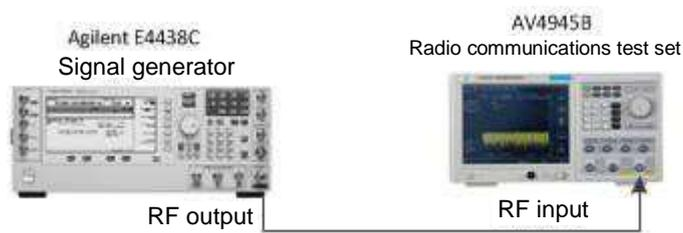

Fig. 4-5 RF receiver wiring diagram
The section introduces RF receipt operations of the 4945B/C radio communications test set, and takes the Agilent E4438C signal generator for RF signal generation, with instrument wiring shown in Fig. 4-5. Start up the tester and warm it up for 15 minutes, and then click **[Demodu]** in the upper right of the screen to switch to the RF receipt performance test mode.
- 1) Connect the instrument as per Fig. 4-5;